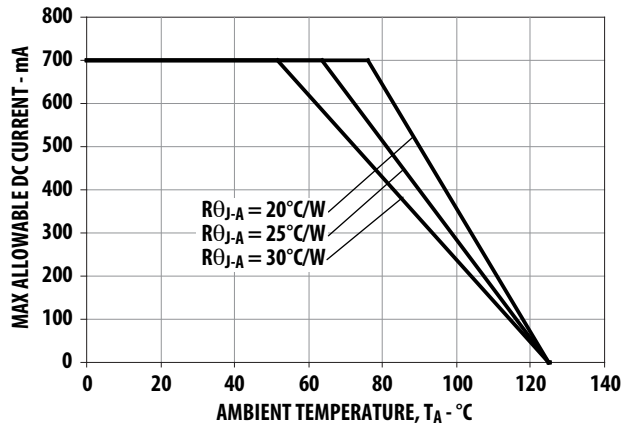
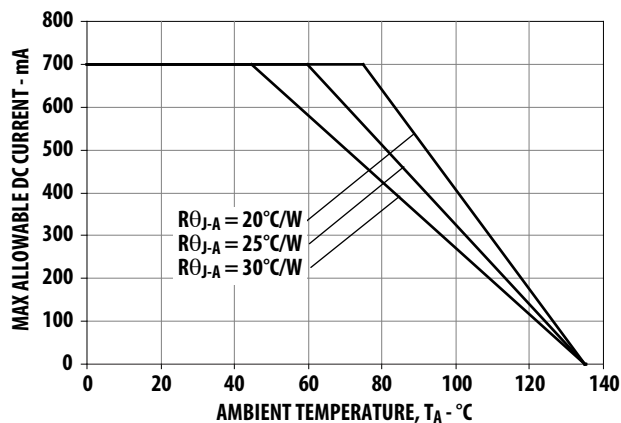

Figure 10. Maximum Forward Current vs. Ambient Temperature.
Figure 20. Maximum Forward Current vs. Ambient Temperature.
1. Derate linearly based on Figure 10 for AllnGaP and Figure 20 for InGaN.